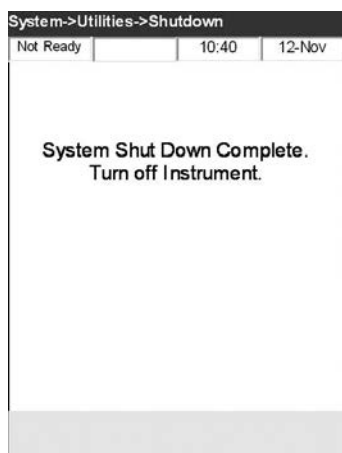

Fig. 6-64 Turn off instrument
15. When the shutdown is complete (Fig. 6-64), turn the system power off.